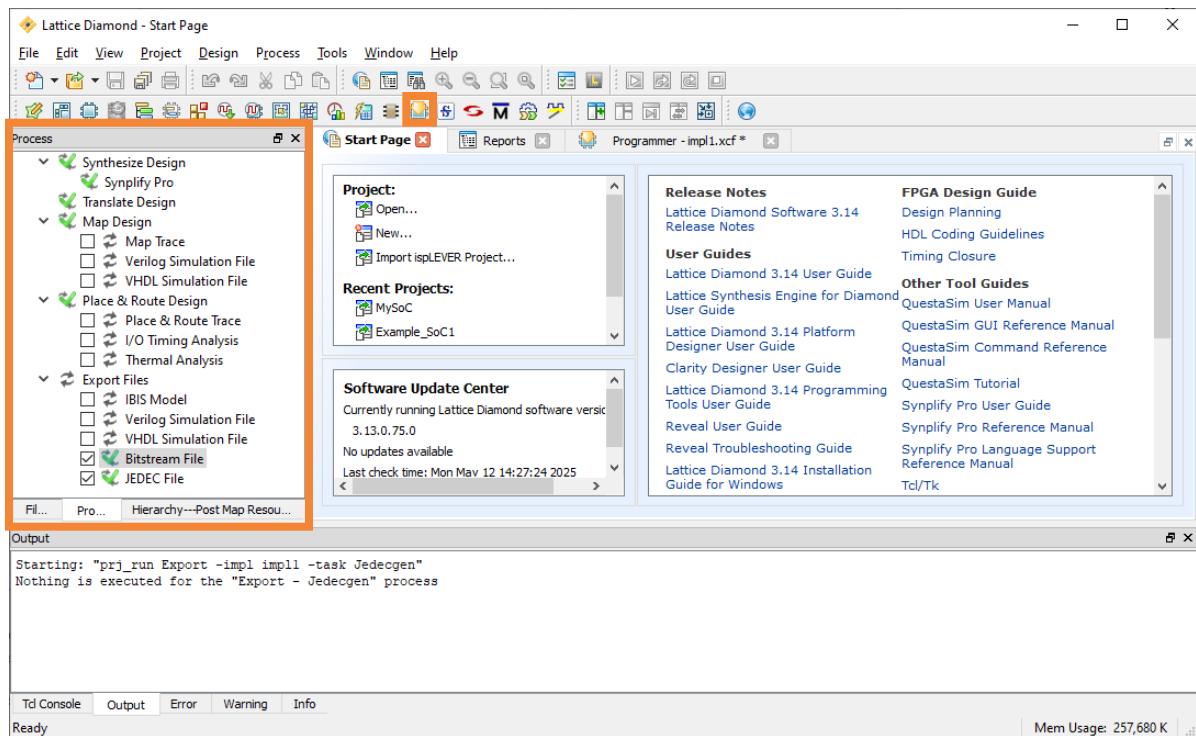

Figure 6.15. Generating the Programming File Successfully
Once the programming file is exported successfully in the last section (Figure 6.15), you can program the target device. Make sure the evaluation board is powered ON and connected correctly to the host PC before performing the following procedure.
1. Click the **Programmer** icon  on the toolbar of the Lattice Diamond Project Explorer (Figure 6.15).